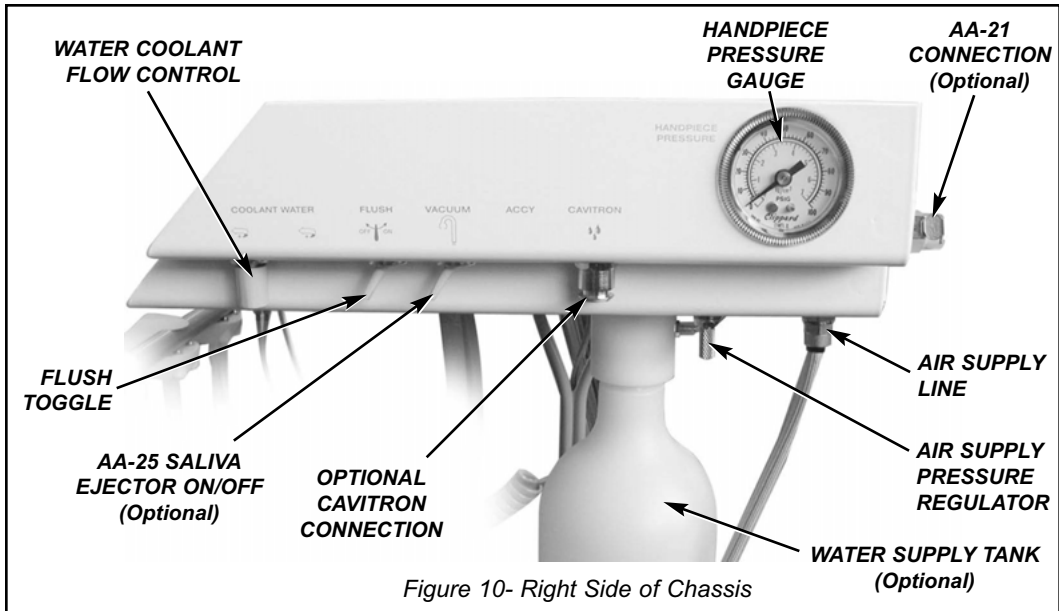

Figure 10- Right Side of Chassis
- 5. PRESSURE GAUGE** (Fig. 10) - The pressure gauge on the right panel gives you a visual indication of the handpiece drive pressure.
- 6. WATER COOLANT FLOW CONTROL** (Fig. 10) - Adjusts the flow of water coolant to the handpiece control.
- 7. FLUSH TOGGLE** (Fig. 10) - The flush toggle located on the right side of the chassis allows you to quickly and completely flush your handpieces, washing away contaminants which may have accumulated in the handpiece and tubing. You should flush the handpieces for about 5 seconds after every patient, and about 20 seconds at the beginning of each day to reduce overnight bacterial accumulation which may have occurred.